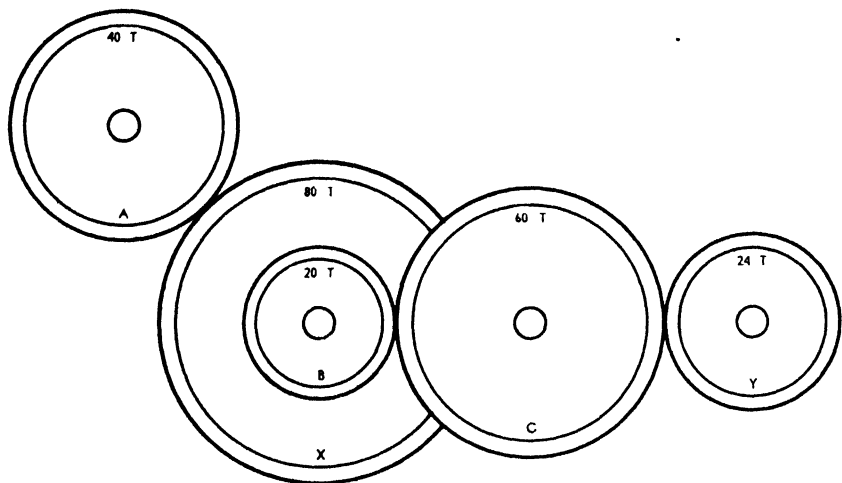

FIG. 139. GEAR TRAIN.
3. To make great changes in speed, gear trains such as the one shown in Fig. 139 are used.
number of teeth on the drivers. Complete the formula to be used in making the calculation of the V. R. of the gear train in Fig. 139 then compute the velocity ratio.